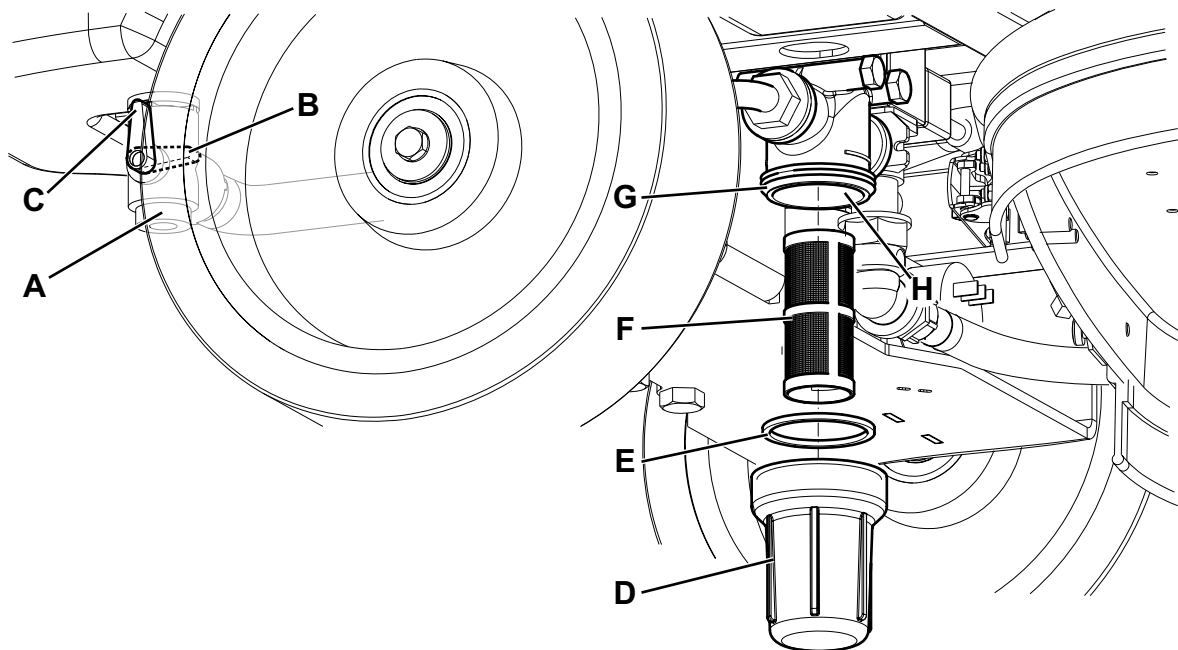

Figure 7
2. Turn the ignition key (58) to "0".
3. Close the solution valve (A, Fig. 7) under the machine, behind the right rear wheel. The valve (A) is closed when it is in the position (B) and it is open when it is in the position (C).
4. Remove the transparent cup (D), recover the gasket (E), then remove the filter strainer (F) under the machine, in front of the right rear wheel. Clean them with water and install them on the support (G).